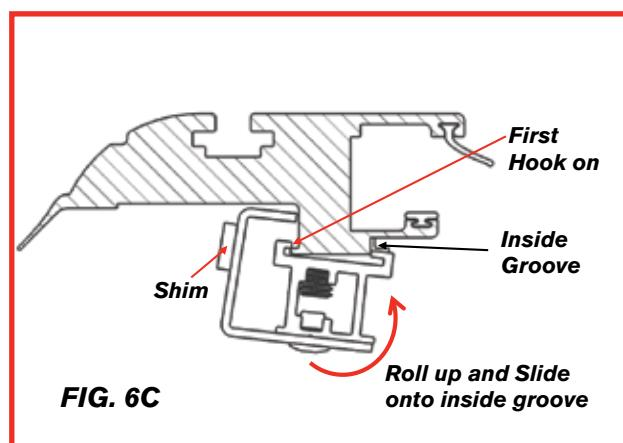

FIG. 6C
***There are "Stick on Shims" on the shim brackets that can be removed if the unit is too tight and "Stick on Shims" in the hardware pack that can be added if too loose. Refer to Figure 6C for "Stick on Shims" if adjustment is needed.***